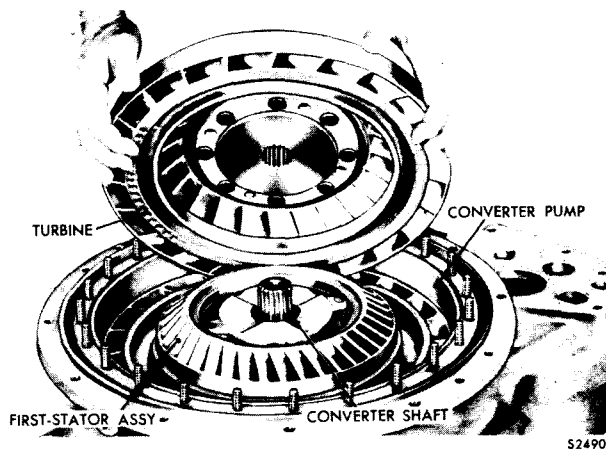

Fig. V-14. Removing torque converter turbine assembly
(1) Lift the torque converter turbine assembly off the converter shaft. Refer to figure V-14. Remove the ball bearing only if replacement is necessary.
(1) Lift the torque converter turbine assembly off the converter shaft (fig. V-14). Remove the ball bearing only if replacement is necessary.